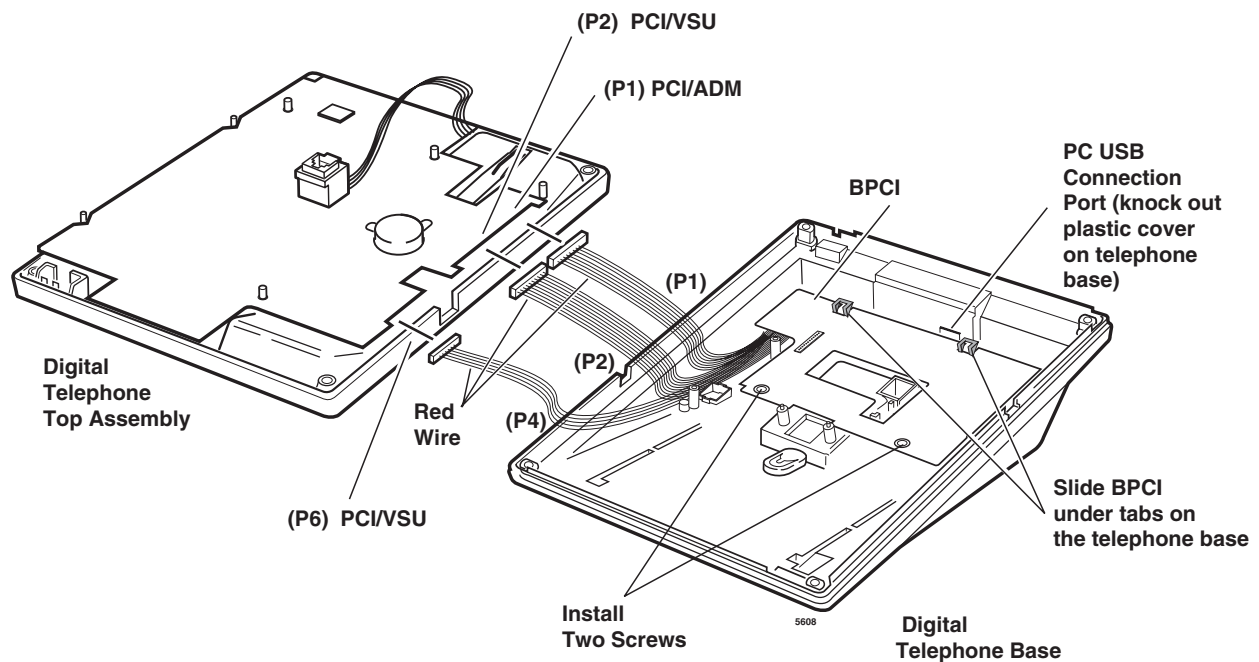

Figure 11-10 BPCI Installation
1. Loosen the four captive screws on the digital telephone base to remove it. Knock out the plastic cover on the telephone base to provide access to the BPCI USB port. See Figure 11-10.
2. Refer to Figure 11-10 and install the BPCI inside the phone base. Secure with screws.